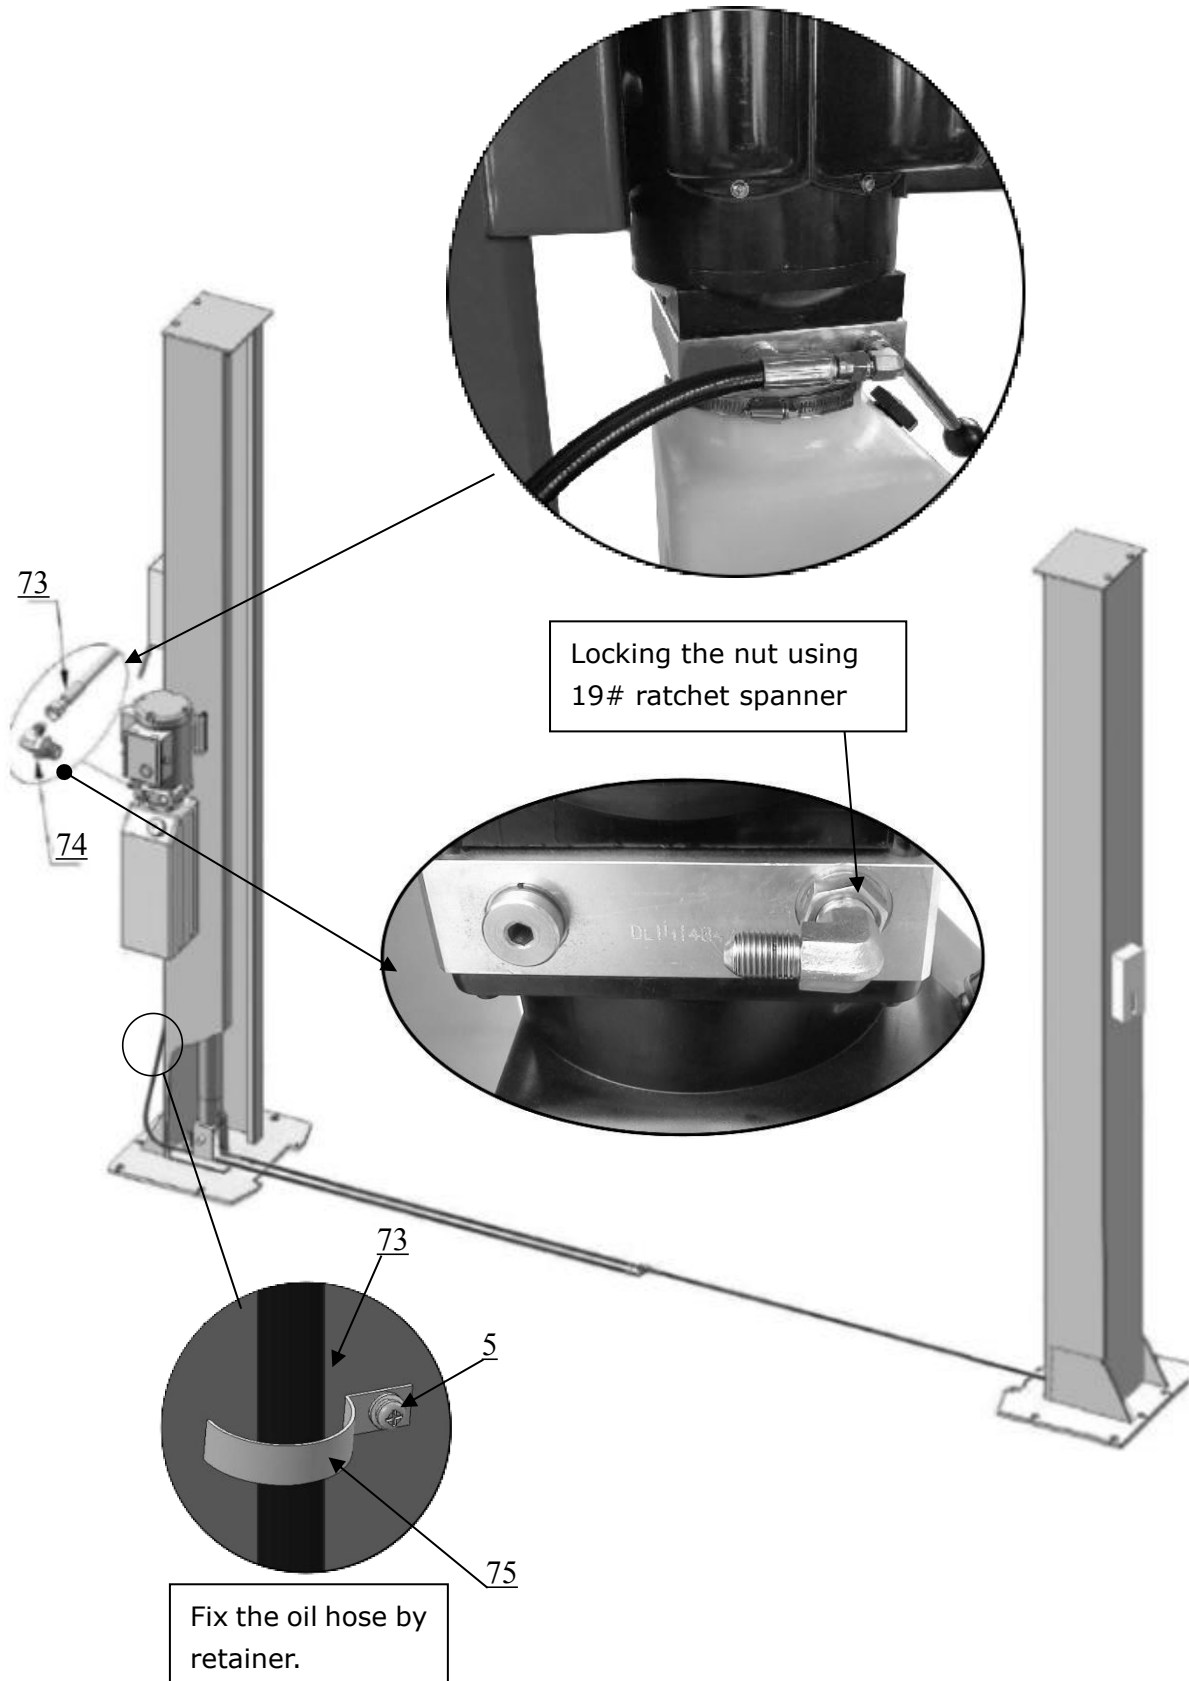

Fig.22
J. Install hydraulic power unit and oil hose assy. (See Fig. 22).